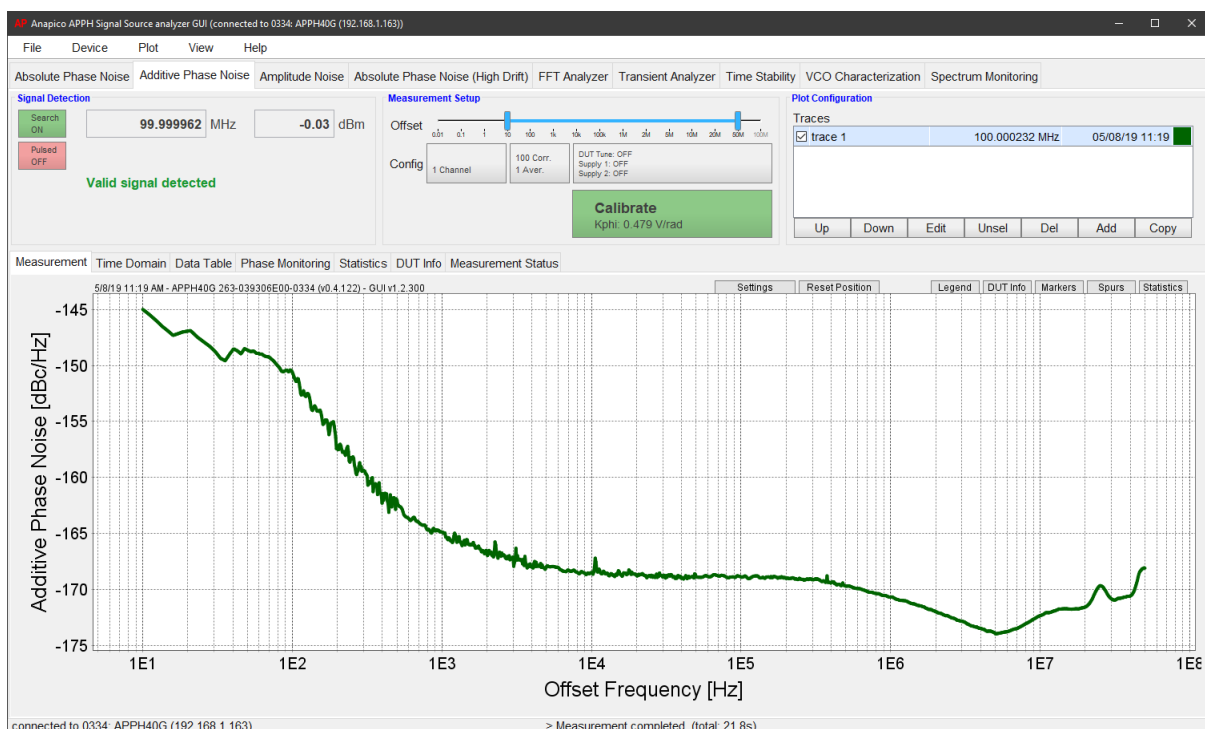

Figure 11 Additive phase noise measurement tab after a measurement cycle.
- 3) Finally, the actual measurement can be initiated by pressing the green “Measure” button, as shown in Figure 11. To restart a measurement, the steps must be performed again, although if the phase situation hasn’t changed, no adjustment is necessary anymore.